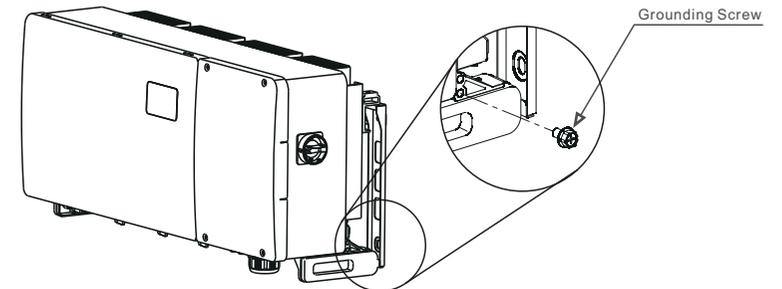

Figure 3.19 Fixed cable
- 6) Connect the grounding cable to the grounding point on the heat sink, and tighten the grounding screw, Torque is 10-12Nm(see figure 3.19).